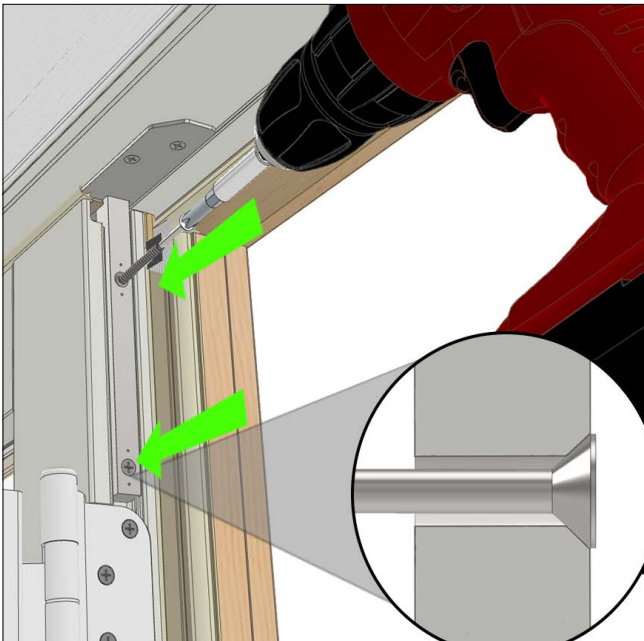

Figure 31
5. Install the 2-1/2" stainless flat head screw into the hole left by removing the panel screw. Drive until it sits flat with the lock bar face. Remove one screw (pan head from each panel). Pre-drill and fasten another 2-1/2" stainless screw into the other hole until it sits flat with the lock bar face. See Figure 31.